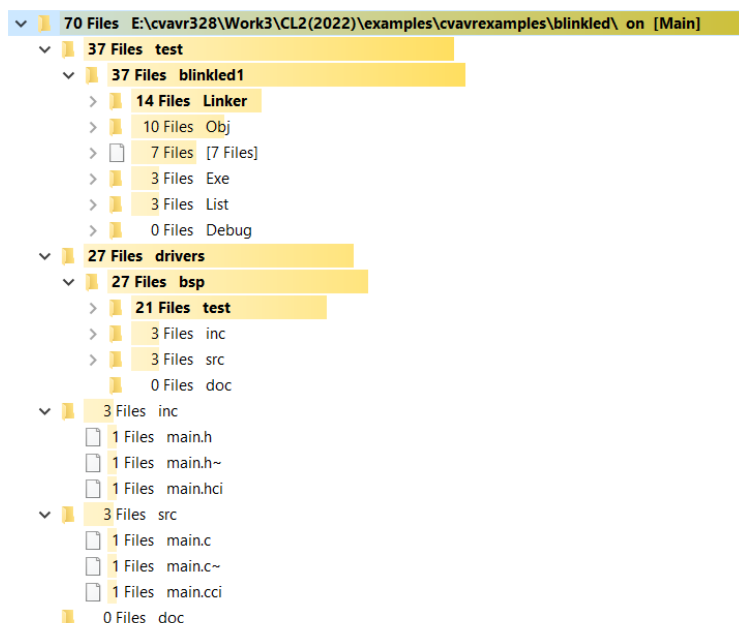
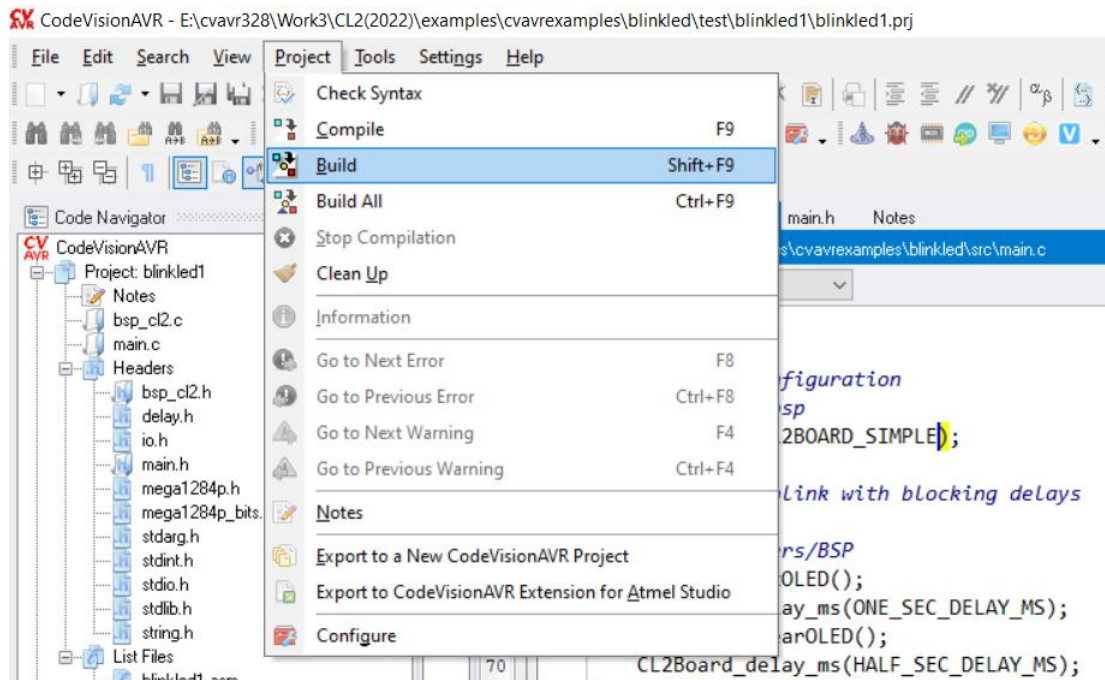
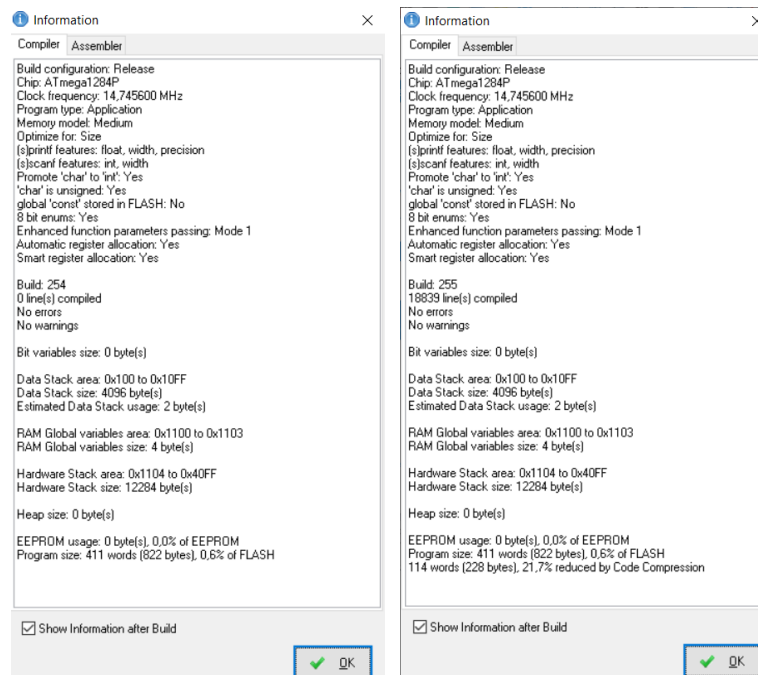

Figure 5 – Example 1 directory structure
Figure 9a – Project→ Build in the CVAVR Example 1
Figure 9b – Results of Project→ Compile (left) and Project→ Build (right) in the CVAVR Example 1
The directory structure is similar for all examples and is shown in Figure 5. The /test/blinkled1 directory has the project files generated via the Codevision / IDE compiler (*.prj is like a visual version of Makefile). If an automated test tool is used the testing files (e.g.Ceedling) will also be included in /test. Project-generated files are excluded from the repo with a specific .gitignore, but are regenerated when the example is rebuilt on your machine. The /drivers directory holds the specific low level routines (here only /bsp) and the /src/main.c and /inc/main.h files hold the user program.
3.a.3 Building the /blinkled1.prj: Navigate again to the **Project** menu item. Here you can compile the code, with **→Compile** (or F9 shortcut) or directly **Build** (Shift-F9) the project (Figure 9a), which will compile and link the code, regenerating the output directories and files shown in Figure 5 under /test/blinkled1 directory. The IDE produces the outputs shown in Figure 9b in the F9 or Shift-F9 cases if no errors are found.